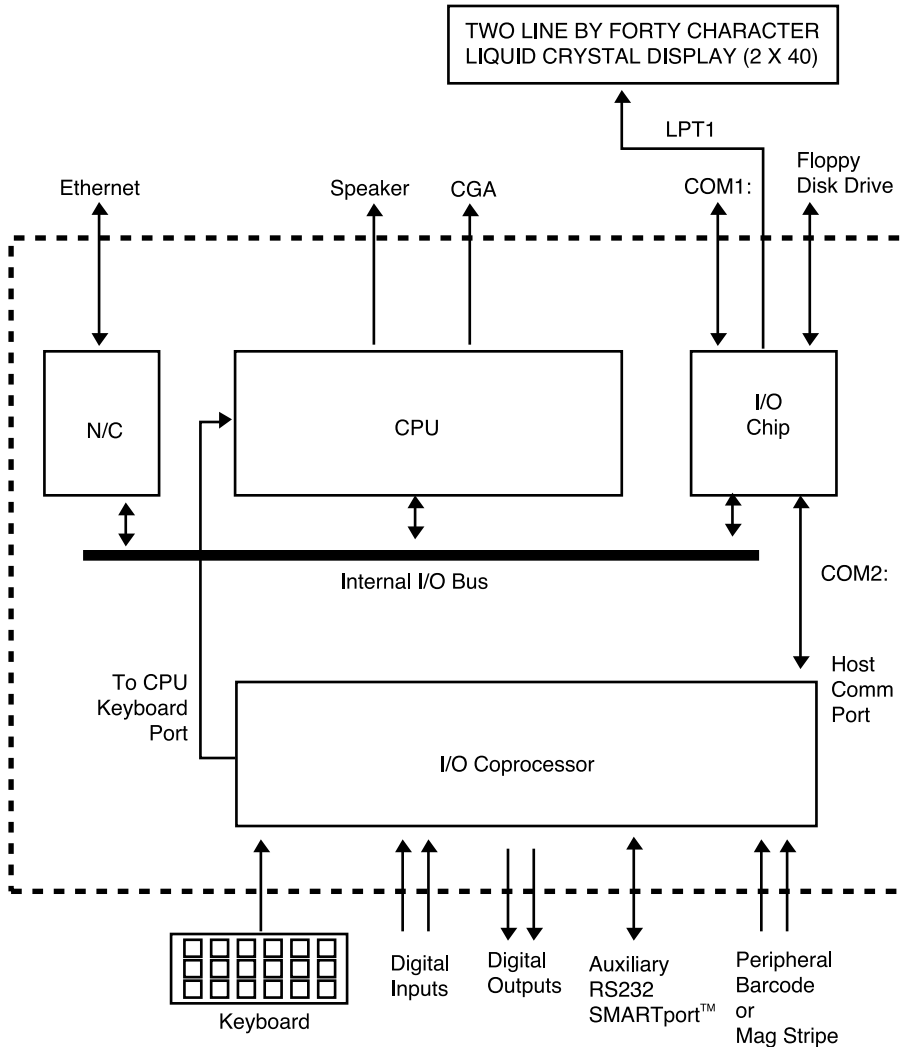

Figure 1-1. FMT1000 Series Computer Architecture
- The CPU sends commands formatted as ASCII strings to the coprocessor, using COM2. This permits commands to be sent to the coprocessor by any program that can write to COM2, including redirected I/O from a batch file. (See Figure 1-1.) For example:
Please continue to refer to Figure 1-1 as the other architectural features of the FMT1000 Series computer are described below.
As can be seen from Figure 1-1, the LCD display is connected to the LPT1 port of the CPU via the I/O chip. This considerably eases the use of the display, since any program capable of writing to LPT1 can write to the display. A modified version of the standard BIOS Int 17 function is provided for this service.
As can be seen from Figure 1-1, the two processors can communicate using COM2 and the keyboard port.